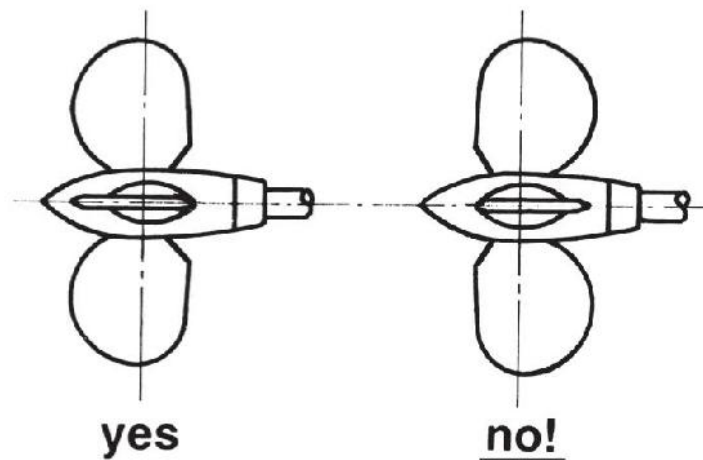

Fig.5
D. Move the blades into the feathered position, making sure that the rounded trailing edges of the blades are aft as shown in Fig. 5
- In the feathered position the blades must be perfectly lined up and set like Fig. 5